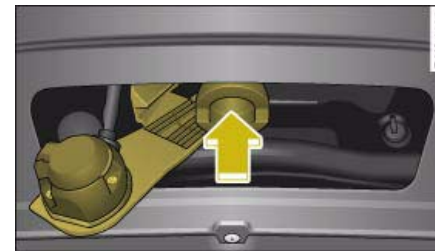

Fig. 211 Removable towing bracket: Inserting the ball joint
- With the spring mechanism in the "ready" position, insert the ball joint into the mounting fixture and push it upwards ⇒ *page 213*, fig. 211 in the direction indicated (arrow) ⇒ . The spring mechanism should then engage automatically with an audible click.